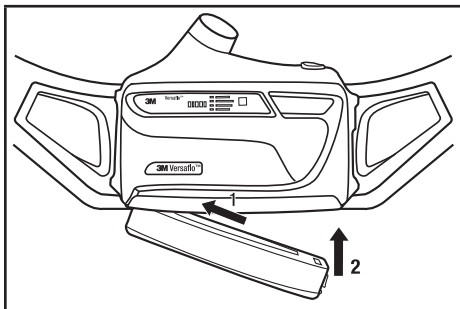

Fig. 10 - Installing battery
To install a charged battery pack, hold the unit so the filter cover faces you (Fig. 10).
- Hook the hinge end of the battery pack into its holder on the bottom of the unit (Fig. 10, step 1).
- Push the latch side of the battery pack into the motor/blower until the latch engages with an audible click (Fig. 10, step 2).